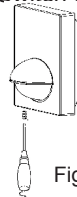

Figure 1
- Loosen the nail on the bottom and open the front cover. (refer to figure 1 and 2).